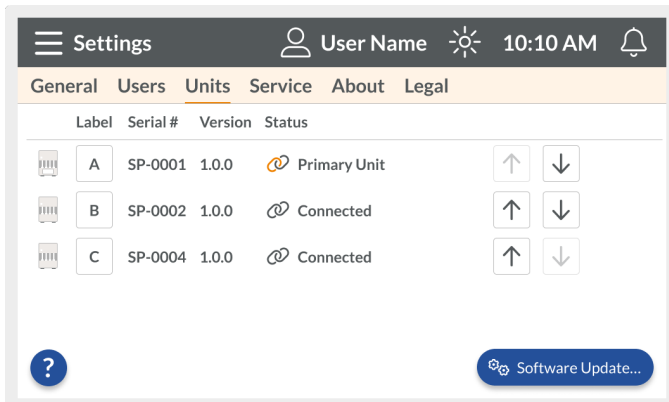

Figure 80. Software Update in the Units Tab
6. Tap  Software Update... (Figure 80). A Software Update dialog will be displayed.